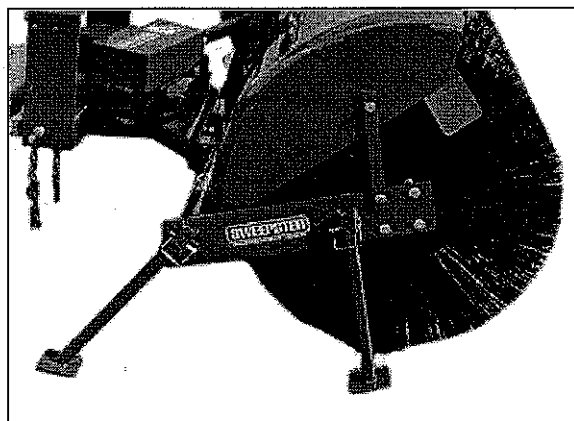

figure 16
17. Install storage stands. Figure 16 shows stands fully installed.